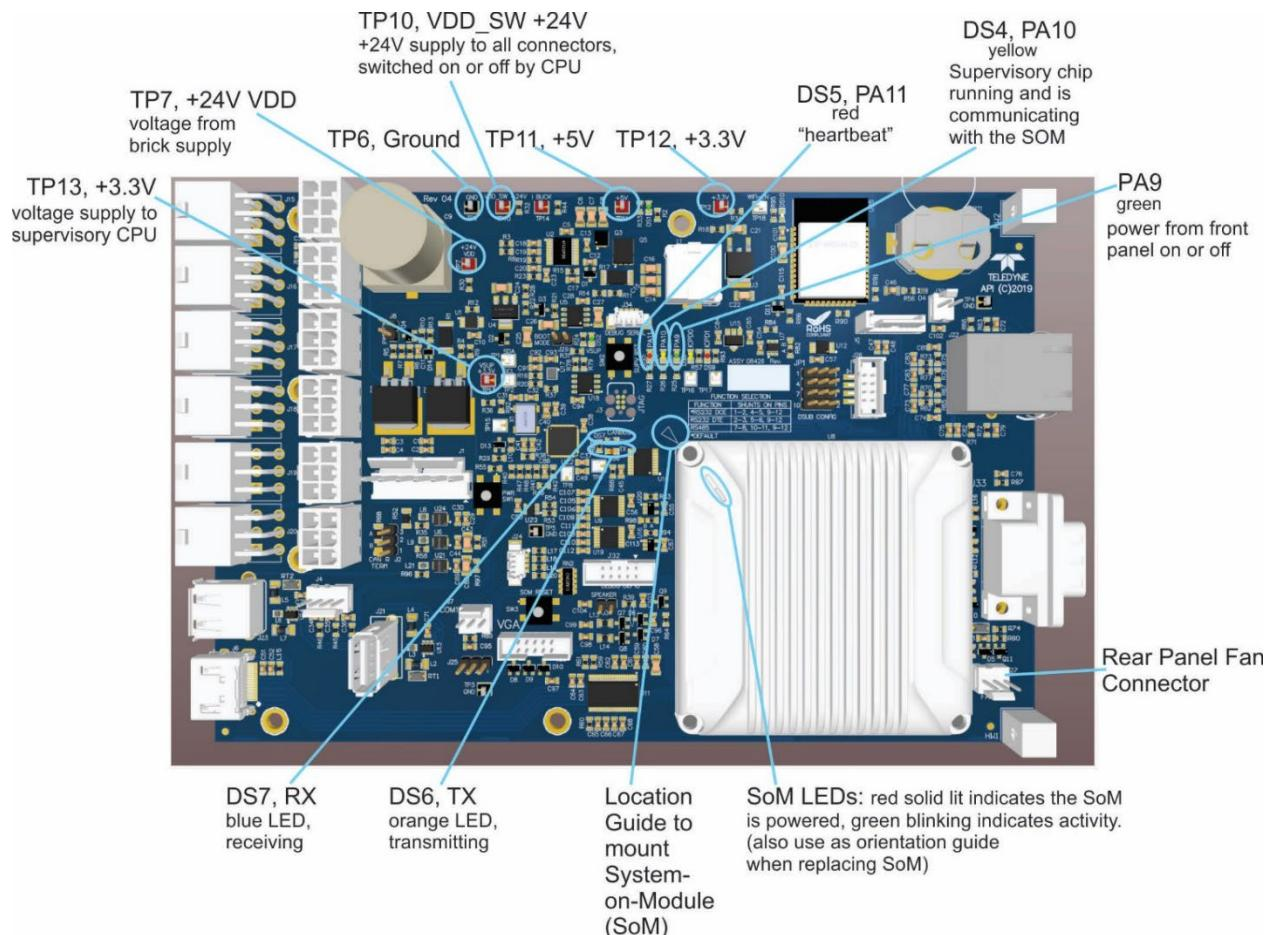
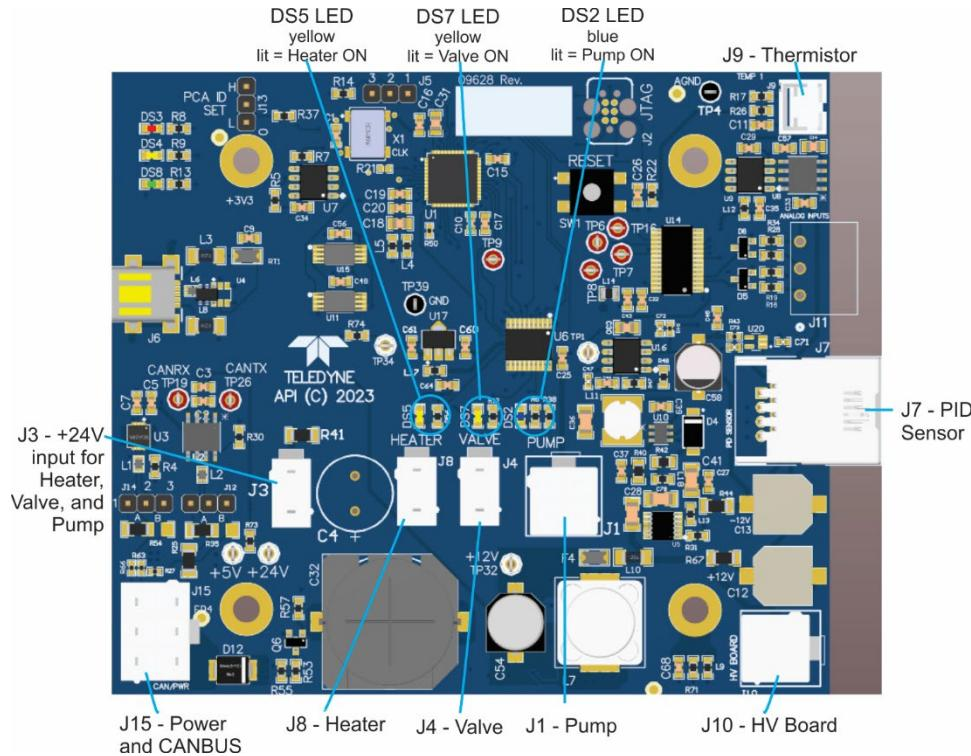

Figure 5-4. Mainboard
Figure 5-5. PID Sensor Board
- checking the internal electronic status LEDs to determine proper operation/functionality (see Figure 5-4 and Figure 5-5).
The following illustrations show connectors and LEDs that can indicate where issues may lie. Figure 5-4 shows the layout for the mainboard.